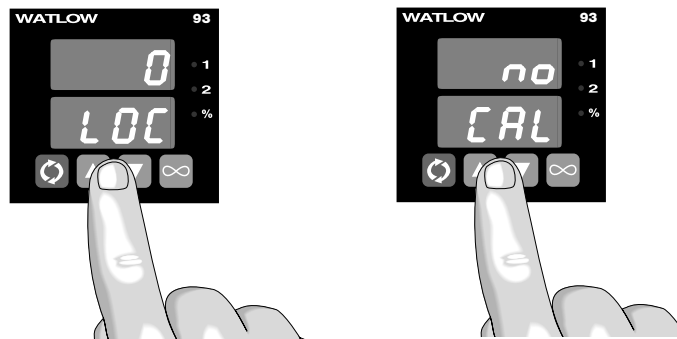

Figure A.3 - Entering the Calibration Menu.
3. Apply power to the controller and allow it to warm up for 15 minutes. **After warm-up** put the controller in the Calibration Menu. See Figure A.3. Select .
3. Apply power to the controller and allow it to warm up for 15 minutes. **After warm-up** put the controller in the menu. See Figure A.3. Select . Press the \odot Advance key until the 440 prompt is displayed.
3. Apply power to the controller and allow it to warm up for 15 minutes. **After warm-up** put the controller in the menu. See Figure A.3. Select . Press the Advance key until 0.00 is displayed.
3. Apply power to the controller and allow it to warm up for 15 minutes. **After warm-up** put the controller in the menu. See Figure A.3. Select YES. Press the Advance key until 4 is displayed.
3. Apply power to the controller and allow it to warm up for 15 minutes. **After warm-up** put the controller in the `[CAL]` menu. See Figure A.3. Select **YES**. Press the **⏩** Advance key until the 4A0 prompt is displayed.